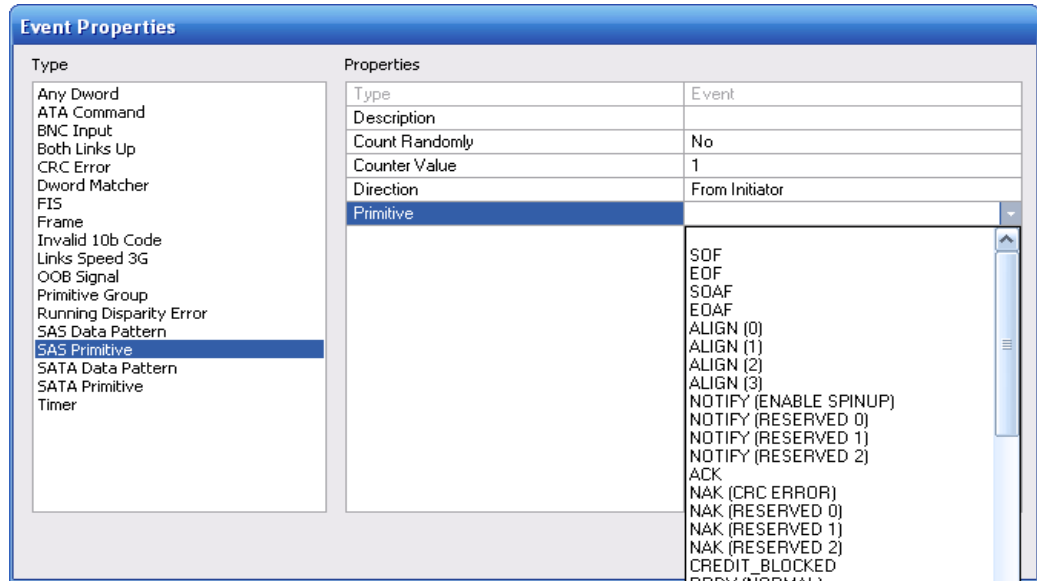

Figure 45 Example 1: Event Drop-Down List
- Step 5** Still in the middle column of the Event Properties dialog box, click on **Primitive** to bring up a drop-down menu that lets you choose the type of primitive you want to wait for in this scenario (Figure 45). In this example, it is RRDY (Normal).